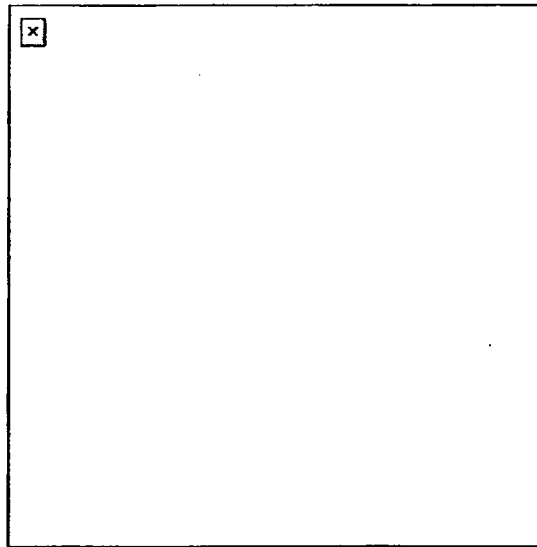

Figure 2. Barricaded firing position.
- (1) DO NOT barricade only the windows that will be used as firing positions (the enemy will soon determine what they are).
- (2) DO NOT form neat, square, or rectangular holes; the enemy will easily spot them.
- (3) Prepare barricades with sandbags, materials in the room or torn from the interior walls of the building, or other available material (Figure 2).